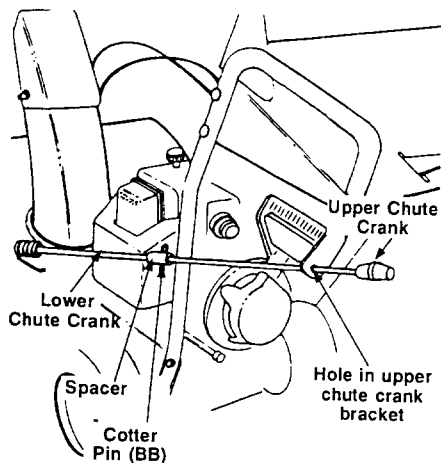

FIGURE 7
6. Secure with remaining flat washer (AA) and cotter pin (G) (5/16" diameter).
Insert upper chute crank through hole in upper chute crank bracket then into spacer. Secure with cotter pin (BB) (1/2" diameter) as shown in figure 7.